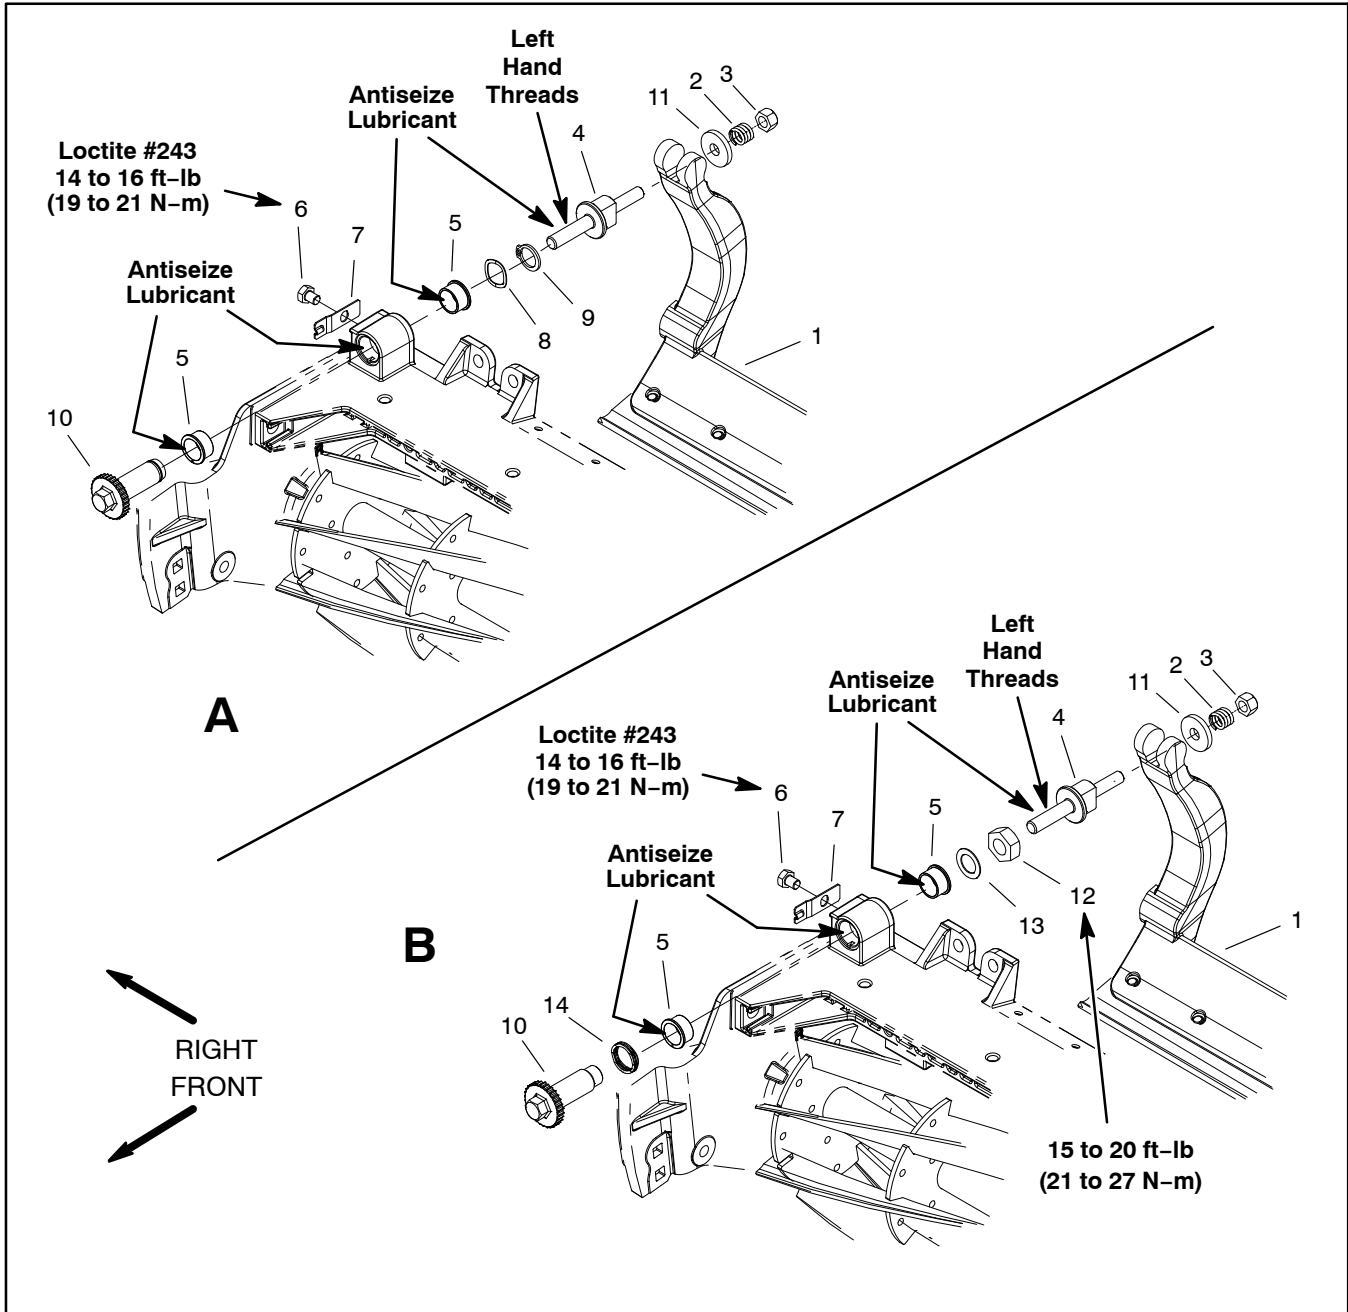

Figure 32
**NOTE:** The bedbar adjuster system for early production DPA cutting units (Fig. 32 A) used a retaining ring on the end of the bedbar adjuster shaft. Current production DPA cutting units (Fig. 32 B) include a lock nut on the end of the bedbar adjuster shaft. Upgrading to the
### Removal (Fig. 32)
1. Remove lock nut (item 3), compression spring and washer from bedbar adjuster screw (item 4).
3. Remove bedbar adjuster screw (left hand threads) from the bedbar adjuster shaft (item 10).
- A. On early production cutting units (Fig. 32 A), remove retaining ring and wave washer from adjuster shaft. Slide adjuster shaft from cutting unit frame.
- B. On current production cutting units (Fig. 32 B), remove lock nut and flat washer from adjuster shaft. Slide adjuster shaft and wave washer from cutting unit frame.
5. Inspect flange bushings (item 5) in cutting unit frame and remove if necessary.
6. If detent (item 7) is damaged, remove it from cutting unit side plate.
### Installation (Fig. 32)
1. If detent (item 7) was removed, apply Loctite #243 (or equivalent) to threads of cap screw and secure detent to cutting unit side plate with cap screw. Tighten cap screw from **14 to 16 ft-lb (19 to 21 N-m)**.
2. If flange bushings (item 5) were removed, apply anti-seize lubricant to bore of cutting unit frame. Align key on bushing to slot in frame and install bushings into frame. Apply antiseize lubricant to bore of each flange bushing.
- A. On early production cutting units (Fig. 32 A), slide bedbar adjuster shaft into flange bushings in cutting unit frame. Secure adjuster shaft with wave washer and retaining ring.
- B. On current production cutting units (Fig. 32 B), slide wave washer onto adjuster shaft and then slide adjuster shaft into flange bushings in cutting unit frame. Secure adjuster shaft with flat washer and lock nut. Tighten lock nut to shoulder of adjuster shaft and then torque lock nut from **15 to 20 ft-lb (21 to 27 N-m)**.
**NOTE:** Inside threads in bedbar adjuster shaft (item 4) are left-hand threads.
4. Apply antiseize lubricant to left hand threads threads of bedbar adjuster screw (item 4). Thread bedbar adjuster screw into adjuster shaft (item 10).
5. Install washer (item 11), compression spring and lock nut onto adjuster screw.